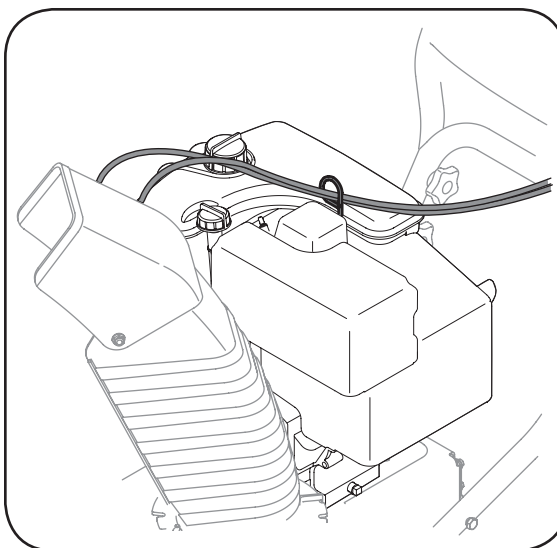

Figure 3-7
8. If not already done, slip the cables that run from the handle panel to the discharge chute into the cable guide located on top of the engine. See Figure 3-7.